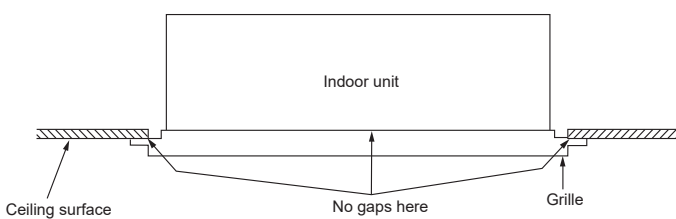

Fig. 6
8. Tighten the 4 fixing screws (2) near the corners installed in step 6.
**Otherwise, air may escape from the gap, resulting in water dripping from the indoor unit. (Fig. 6)**